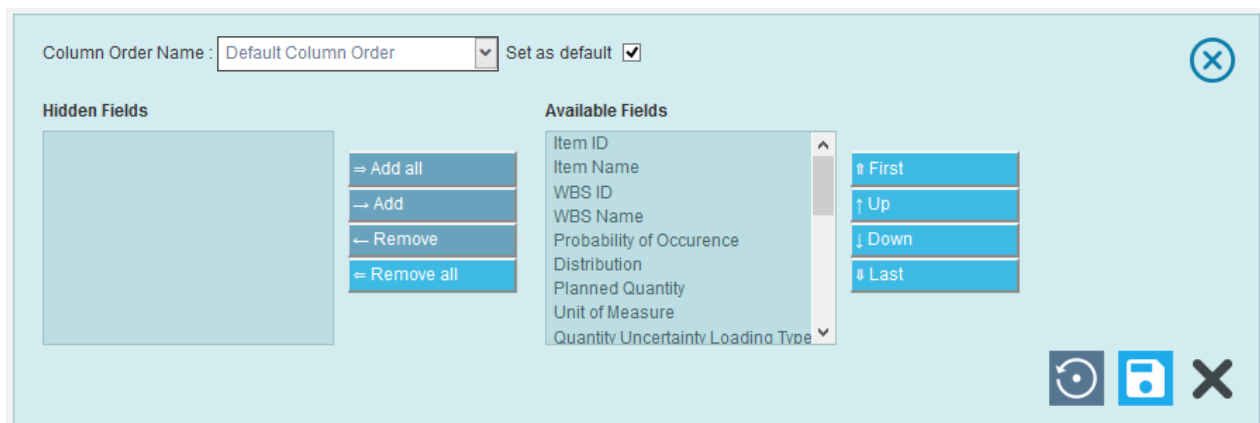

Figure 2.14
4. Click **First, Up, Down** or **Last** button to move the selected field to the required position in the Group View table. (Figure 2.14)
5. Click **Save** icon to save the changes done. (Figure 2.14)
6. Click **Reset** icon to reset the fields to the previous positions. (Figure 2.14)